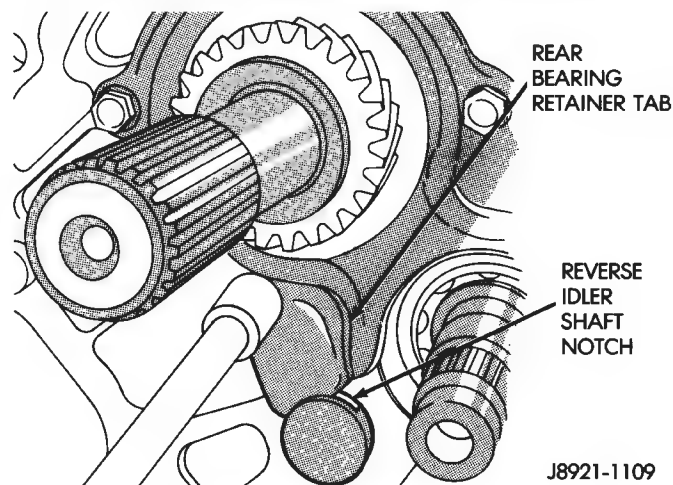

Fig. 84 Installing Rear Bearing Retainer
(8) Position rear bearing retainer over output shaft and rear bearing. **Be sure bearing retainer tab is engaged in reverse idler shaft notch (Fig. 84).**
(9) Install and tighten rear bearing retainer bolts to 18 N·m (13 ft-lbs).